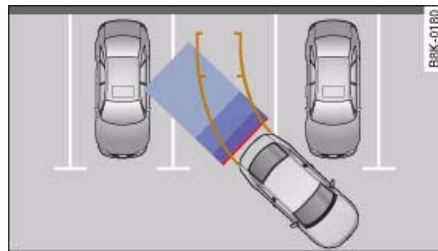
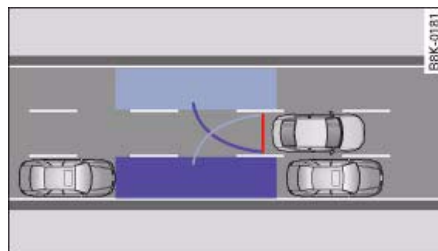
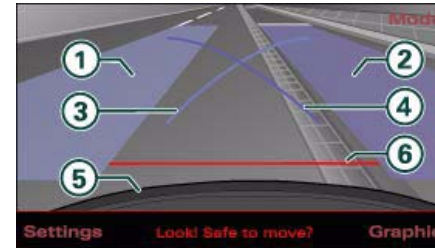

Fig. 156 Viewed from above: Parking mode 1
Fig. 157 Viewed from above: Parking mode 2
Fig. 162 MMI display: Blue area marking aligned in parking space
The mirrored image of the picture supplied by the reversing camera  $\Rightarrow$  page 145, fig. 160 is shown in the MMI display. The picture supplied by the reversing camera also includes orientation lines and area markings which are projected onto the image to assist you when parking  $\Rightarrow$  page 143. The red line in the picture  $\Rightarrow$  page 143, fig. 156  $\Rightarrow$  page 143, fig. 157 shows the collision zone. From here at the latest, the driver should not reverse any further  $\Rightarrow$  .
"Parking mode 1" ⇒ *fig. 156* can, for example, be used when parking your vehicle in a carport or a garage ⇒ *page 145*.
"Parking mode 2" ⇒ *fig. 157* can be used, for example, when parking your vehicle at the roadside ⇒ *page 146*.
Orientation lines and area markings (⇒ *page 145*, *fig. 160* and ⇒ *page 146*, *fig. 162*) are also projected onto the reversing camera images. They differ, depending on the parking mode you have selected. These orientation markings are intended to assist the driver when parking and manoeuvring in tight spaces. They are projected onto the image at road surface level (not on a gradient).
- Position your vehicle parallel to the roadside, about a metre away from the next parked vehicle ⇒ *page 143*, fig. 157. If you are parking next to obstacles please observe ⇒ *page 150*.
- Press the control button for **Mode A** ⇒ *page 145*, fig. 161. "Parking mode 2" ⇒ fig. 162 will appear in the MMI display.
- Reverse and align the position of your vehicle in such a way that the dark blue area marking ② ⇒ fig. 162 borders onto the vehicle behind or onto the parking space line marking. If you are *not* parking next to obstacles ⇒ *page 150* the long side of the dark blue marking should border onto the kerb. The complete dark blue area marking must fit into the parking space ⇒ *page 143*, fig. 157.